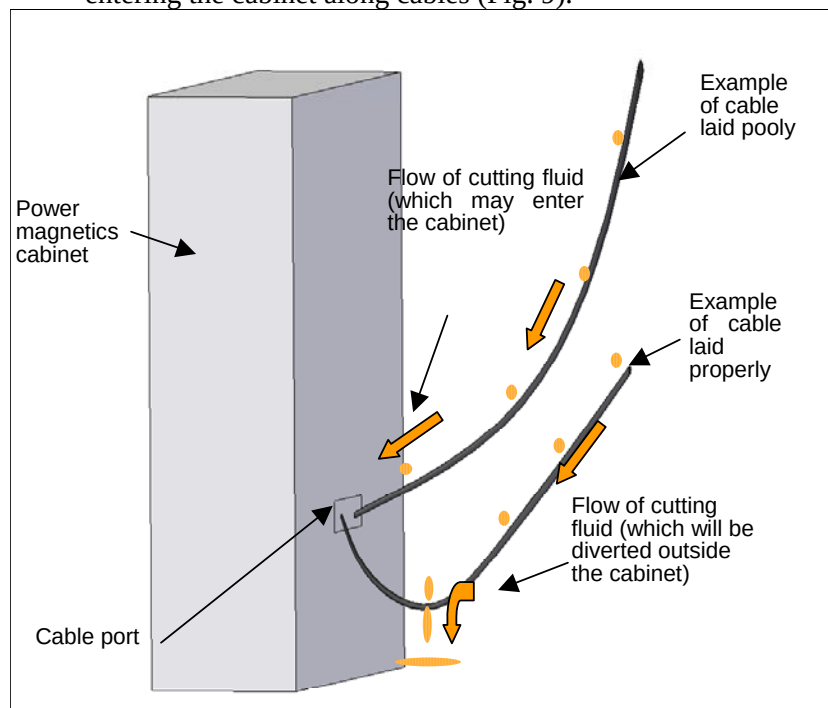

Fig. 9 How to lead in cables
- <8> Lead cables into the power magnetism cabinet from below the cable port. This is intended to try to prevent cutting fluid entering the cabinet along cables (Fig. 9).